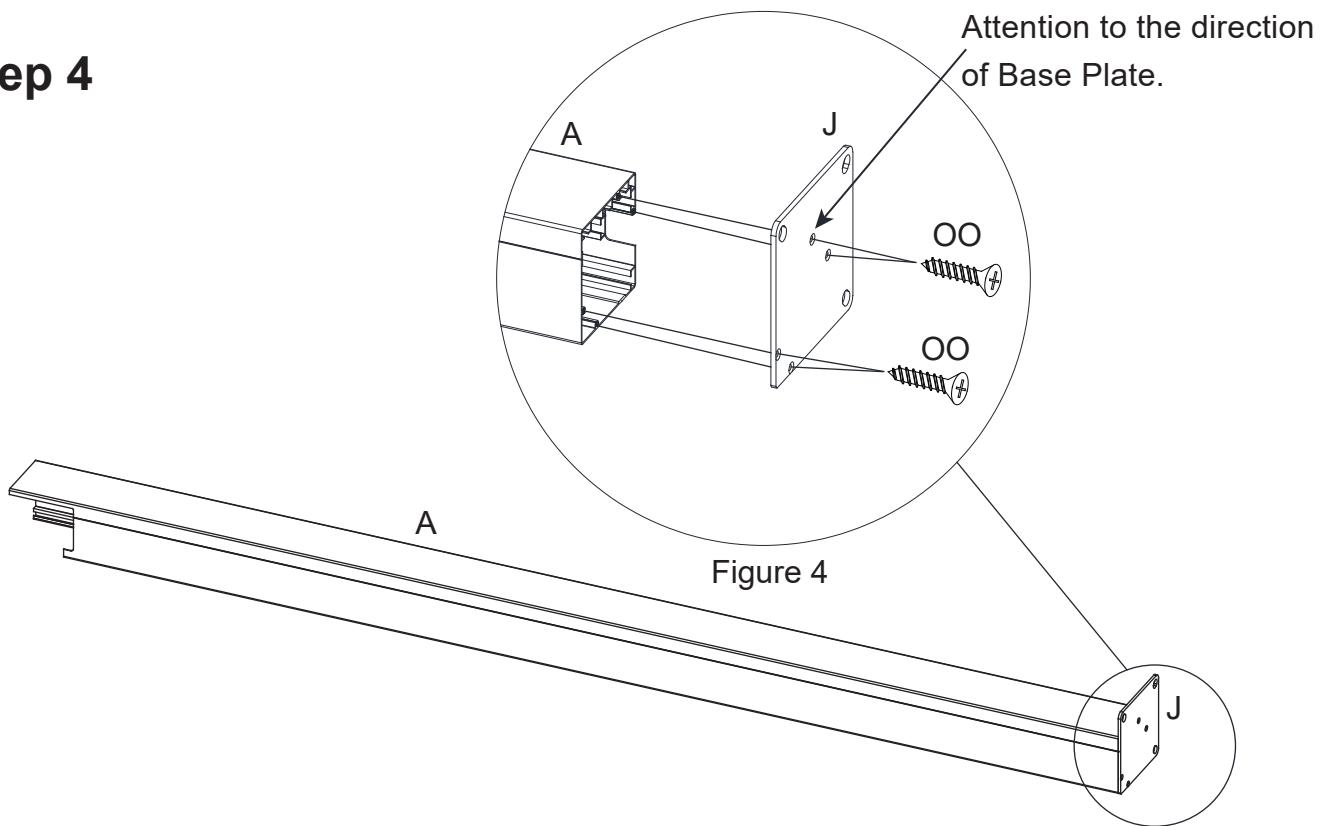

Figure 4
4. Connect the Base Plate (J) and the Corner Post (A) by using Bolts (OO) .See Figure 4.